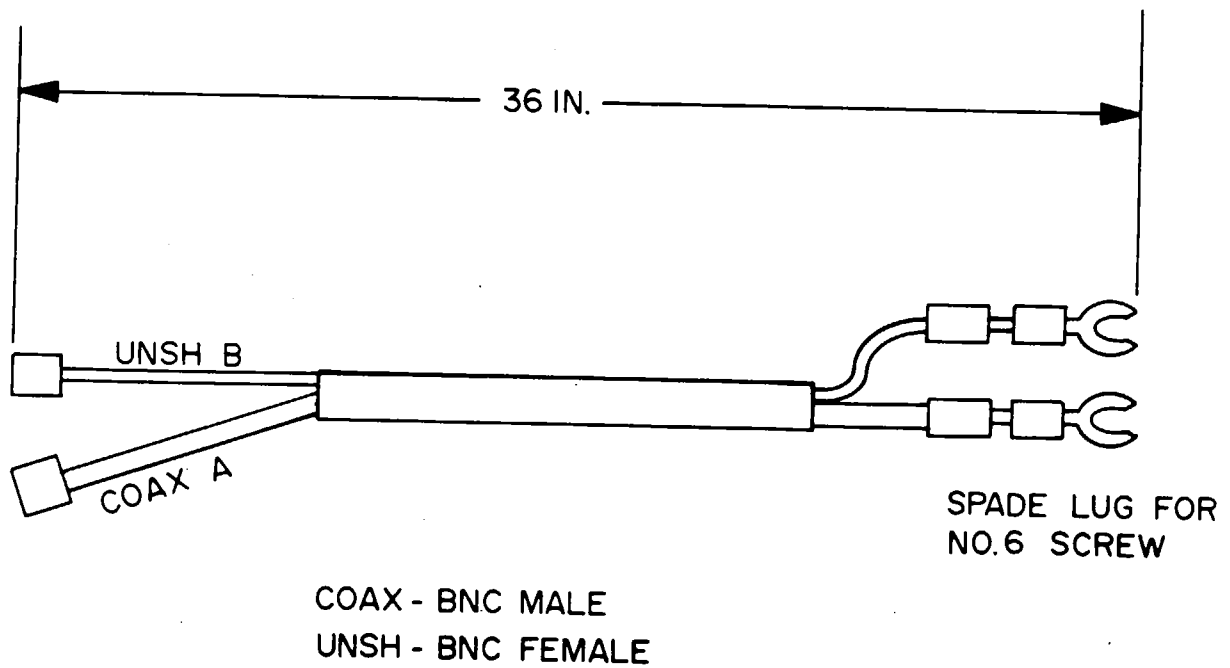

Figure 28-18. Test Harness Tank Units
1. Connect tank unit to be tested. (refer to figure 28-18.)